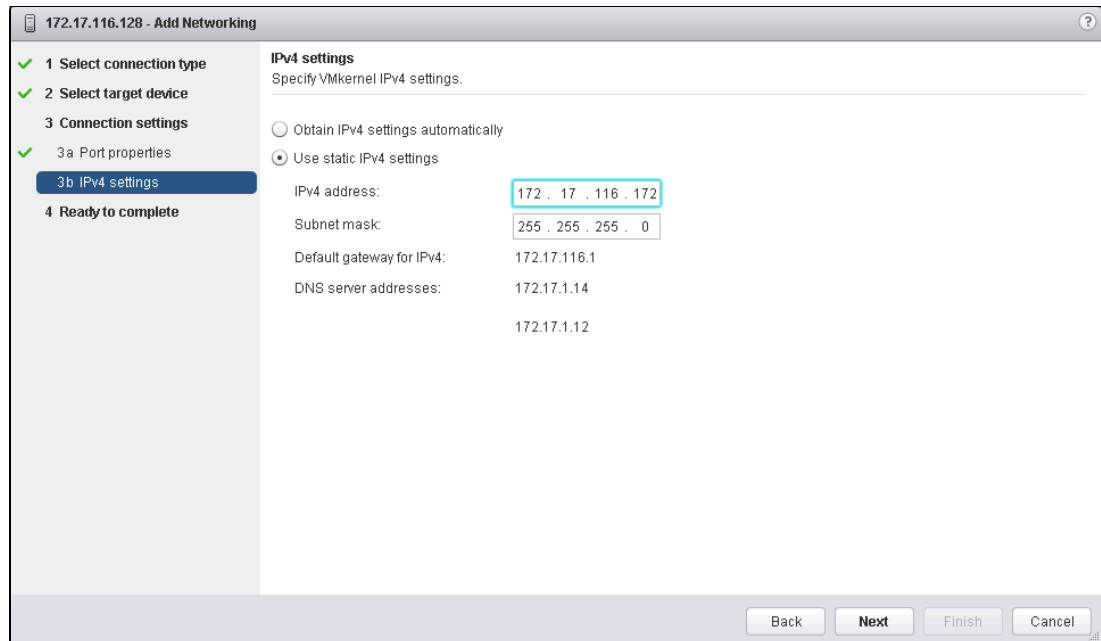

Figure 5-24 VMware: Enter an iSCSI network IP
6. Enter an IP address for your iSCSI network. Use a dedicated network for iSCSI traffic (Figure 5-24).